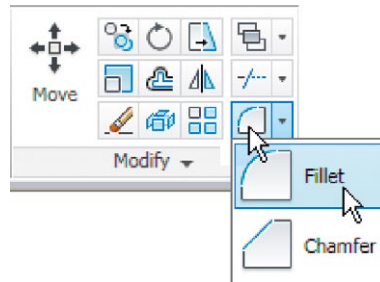

Fig. 5.41 Select **Fillet** from the menu in the **Home/Modify** panel
2. Call Fillet – *click* the arrow to the right of the tool icon in the **Home/Modify** panel and select **Fillet** from the menu which appears (Fig. 5.41), *pick* **Fillet** from the **Modify** drop-down menu or *enter* **f** or **fillet** at the command line which then shows: